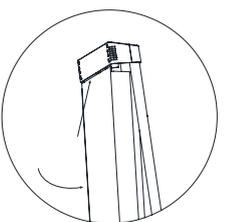

fig.4.
- Pull the unlocked end cap away from the body and lay the diffuser into the body, release the end cap to secure the diffuser as shown in fig.4.